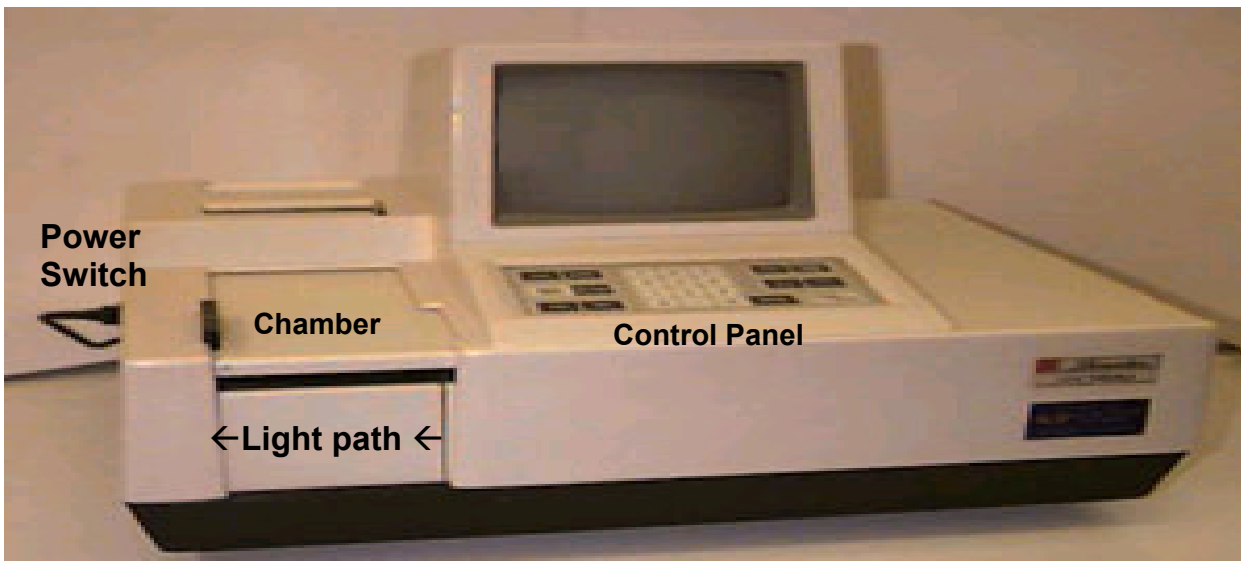

Figure 1: Spectrophotometer
- 9.1. Figure 1: Spectrophotometer